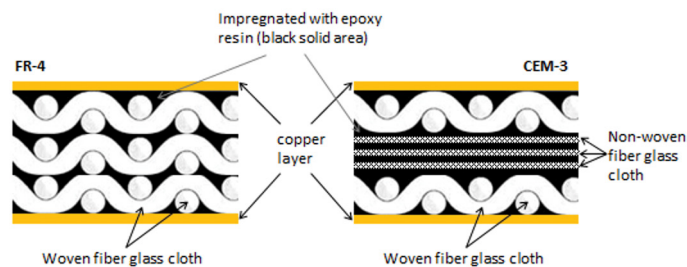

Figure 7: Cross section of a FR-4 and CEM-3 PCBs. Not drawn to scale; for illustration purposes only.
FR-4/CEM-3 board construction consists of the following layers (Figure 7):
- FR-4 (woven fiber glass fabrics reinforced epoxy laminate, Figure 7) sheet or CEM-3 (composite epoxy material constructed from both woven and non-woven fiber glass fabrics). These two materials have excellent electrical insulation properties but have very poor thermal conductivity. Both are priced economically and are widely available. For detail specifications on PCBs, it is best to refer to a standard generated by Association Connecting Electronics Industries, (ipc.org), IPC-4101C “Specification for Base Materials for Rigid and Multilayer Printed Boards” standard.